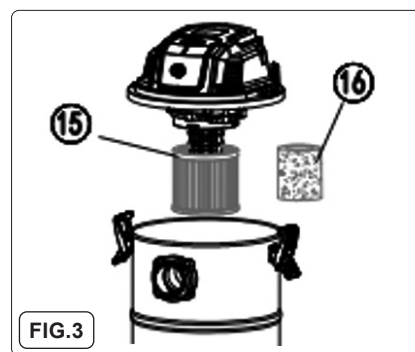

FIG.3
### 5.3. FILTERS (FIG.3).
7.1.2. Disconnect the hose handle from the plastic tube, assemble the HEPA filter as in Fig.3.
7.2.4. Reinstall all the accessories and units as per the assembly Fig.3